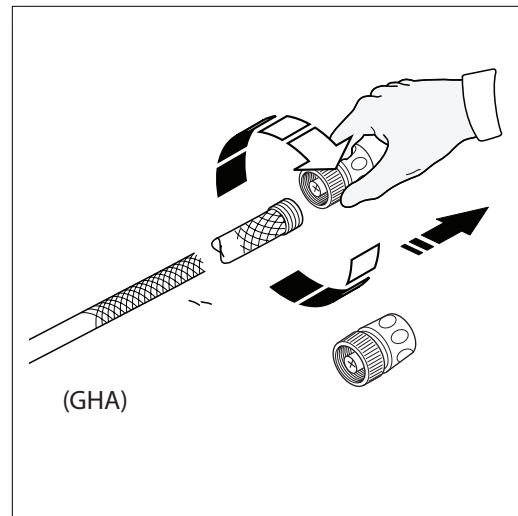

Fig. 14
- Attach the garden hose adapter to the end of the garden hose (Fig. 14).